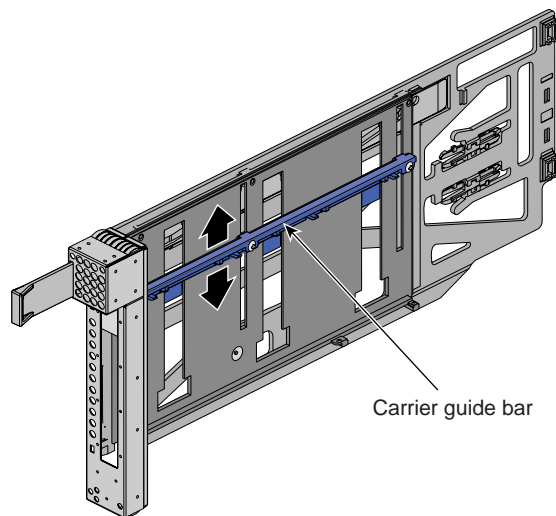

Figure 6-19 Adjusting the Carrier Guide Bar
- b. Adjust the carrier guide bar (also known as the alignment rail) up or down as necessary (see Figure 6-19).